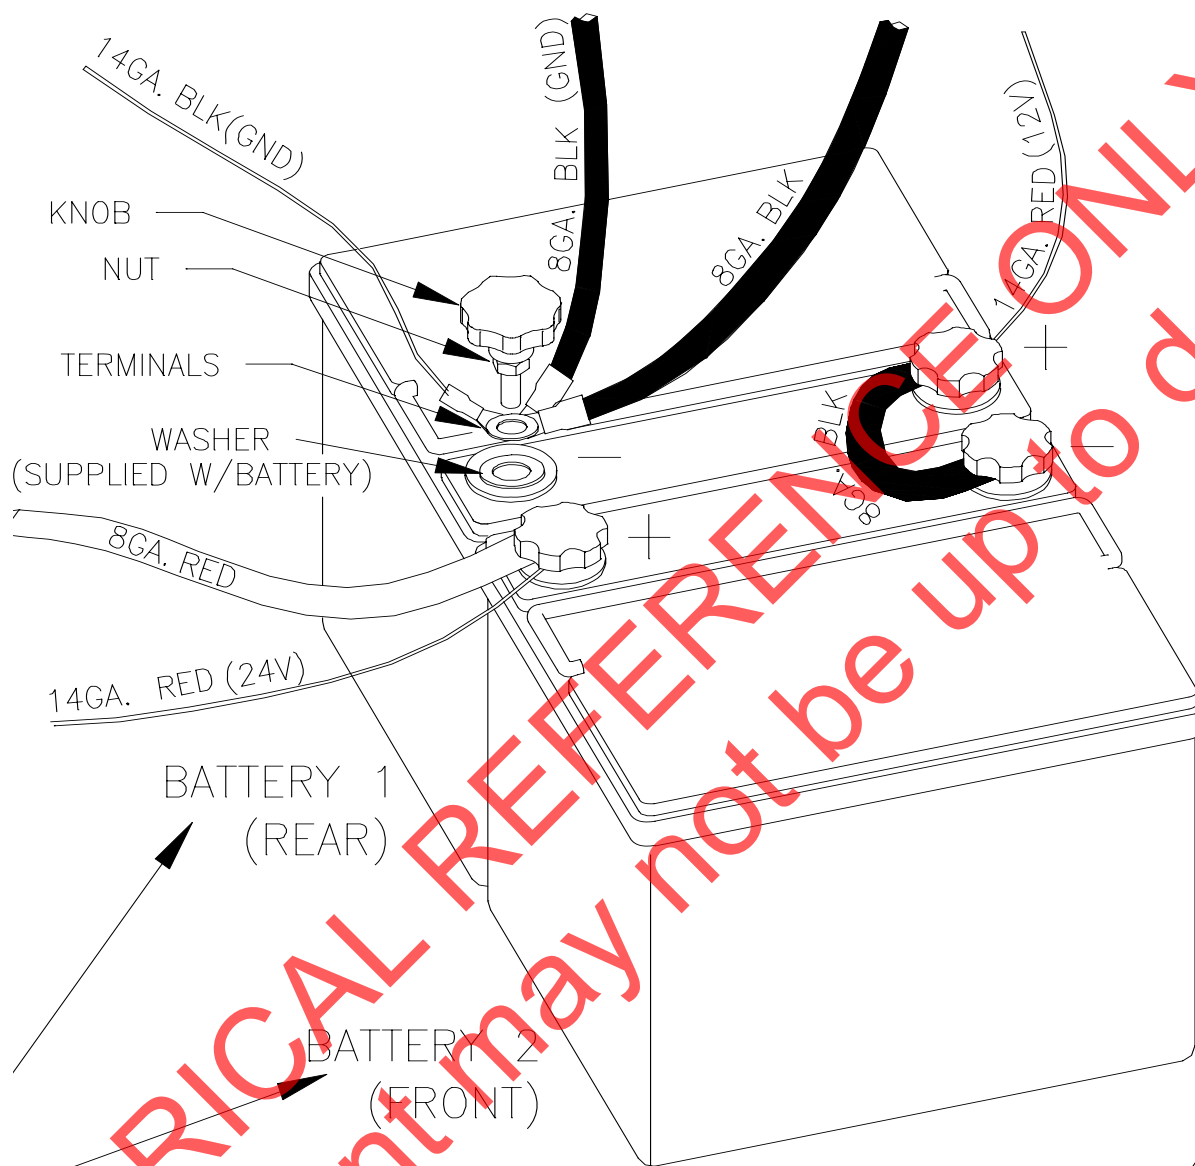

Figure 5.4 – UVIC Battery Connections
6. After the cabinet is securely mounted, remove any debris that may have entered the cabinet. Remove the two battery hold-down brackets on the bottom right side of the enclosure. Install the batteries oriented as shown in Figure 5.4 but do not connect any wires to the batteries. Re-install the battery hold-down brackets over the batteries.